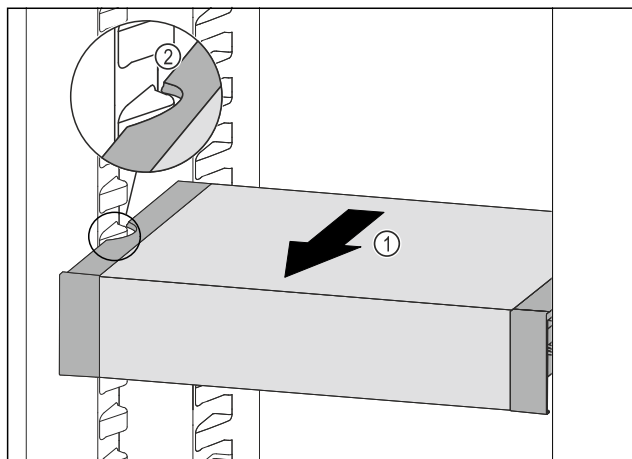

Fig. 87
- Pull VarioSafe forwards Fig. 87 (1) until the recesses in the side of the VarioSafe are at the level of the support rib in the refrigerator compartment. Fig. 87 (2)